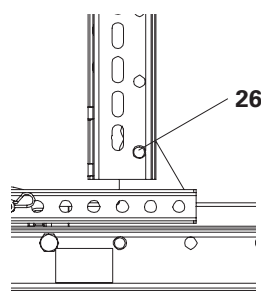

Fig. B8.02a
1. Bolt Platform Beam SRU (58) onto the Steel Waler SRU U120 (1c) of the pre-assembled external formwork element A using 2x fitting pins Ø 21 mm (26).
2. Insert Guardrail Post HSGP-2 (40) into the Platform Beam SRU (58).
4. Bolt the formwork unit with platform beam onto the Adjusting Unit VARIOKIT (18) using 1x fitting pin Ø 21 mm (26). (Fig. B8.02a)